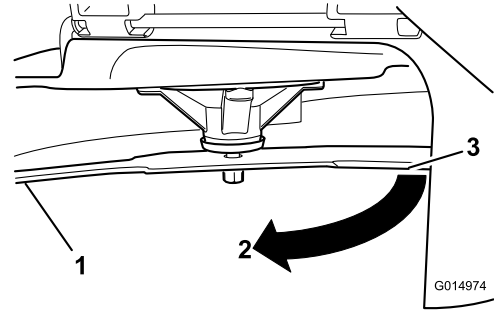

**Figure 51**
2. While wearing thickly padded gloves, or other adequate hand protection, slowly rotate the blade into a position that allows you to measure the distance between the cutting edge and the level surface the machine is on (Figure 51).